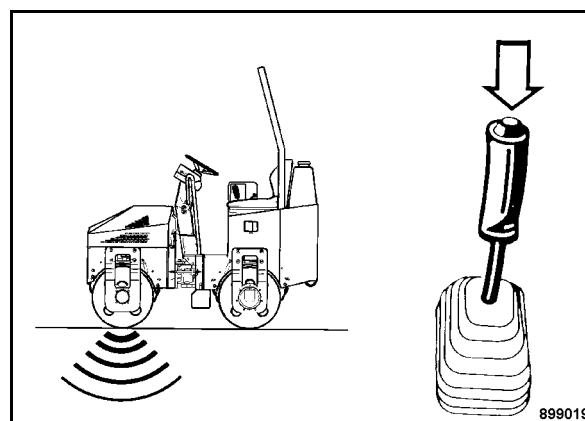

Fig. 41
- Actuate the vibration push button (Fig. 41).